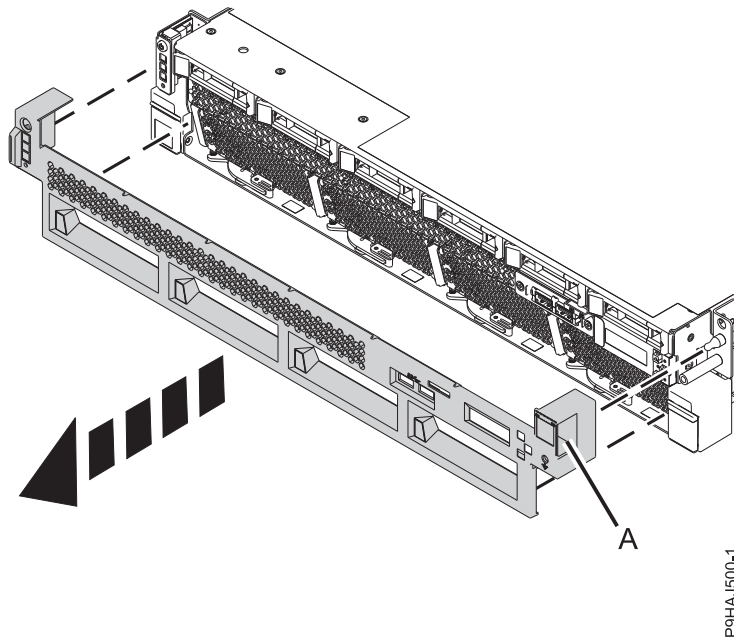

Figure 3. Removing the front covers
2. You can remove the cover by pulling it away from the system. The cover has indentations where you can hold it more easily. See Figure 3 on page 17.